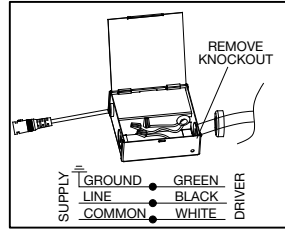

fig. 2
2. Open the cover of the provided J-BOX and use wire nuts to make connections with power supply. Place splices in J-BOX before closing cover (fig. 2).